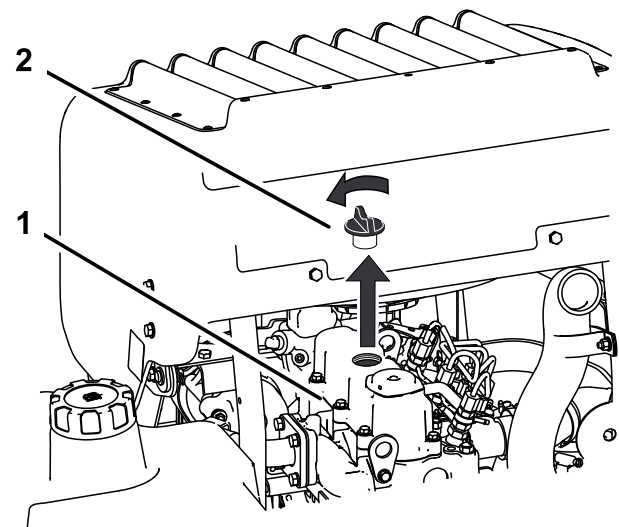

Figure 43
6. Remove the oil filler cap from the top of the engine (Figure 43). This will help the oil to drain.
2. Remove the oil filler cap and the dipstick (Figure 43).